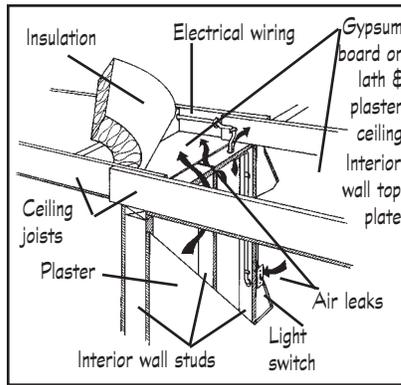
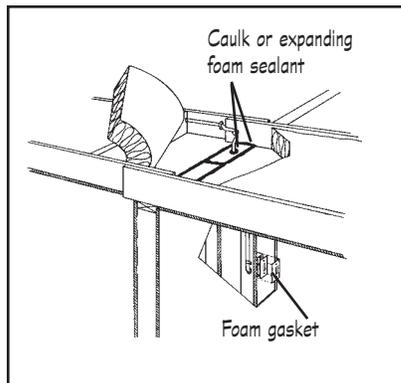

Figure 7a
Figure 8
**Tops of interior walls.** The tops of interior walls are easy to inspect if the attic is unfinished and uninsulated. Otherwise, you will have to pull up some floorboard and move the insulation. As mentioned before, a sketch of the room layout will help you find the tops of interior walls. In almost all older homes, the walls were built before the ceiling, so the area above the wall is not plastered. Figure 7a and 7b show air flow from gaps at the top of the wall. Flexible long-life caulk can be used to seal the smaller gaps and holes. (Figure 8) Larger gaps can be filled with expanding foam sealant, or sealed with strips of wood or rigid board insulation caulked or foamed in place.